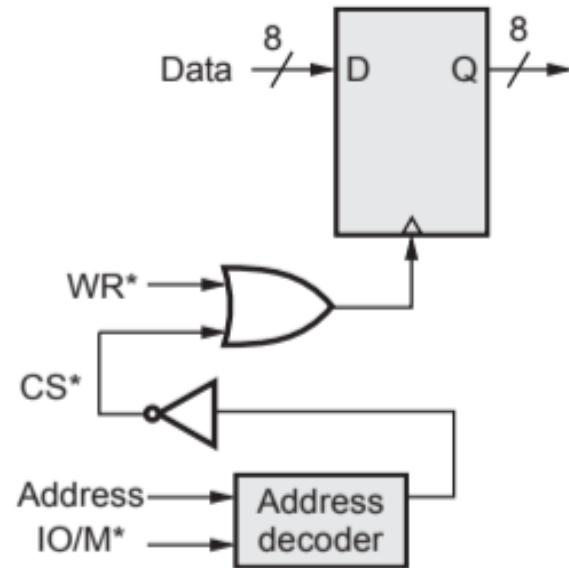

Fig. 5.12.7 Output port operation
- Output ports are implemented using registers, multi-bit flip-flops with a common clock. The registers data inputs (D) are connected to the CPU data bus and the registers clock input is driven by the CPU write strobe (WR).
- The rising edge of the write strobe loads the data into the register output (Q) and this output stays fixed until the register is written again. Fig. 5.12.7 shows how a register could be connected to operate as an output port.
- The CPU's write strobe (WR) is used to clock the data into the register, but only if the address on the CPU bus corresponds to the address of the output port.
- The register's data inputs (D) are connected to the CPU data bus, and the register's clock input is driven by the CPU write strobe (WR).
- The **rising edge of the write strobe** loads the data into the register output (Q), and this output stays **fixed** until the register is written again.
- **Fig. 5.12.7** shows how a register could be connected to operate as an **output port**.
- The **CPU's write strobe (WR)** is used to clock the data into the register, but only if the address on the CPU bus **corresponds** to the address of the output port.